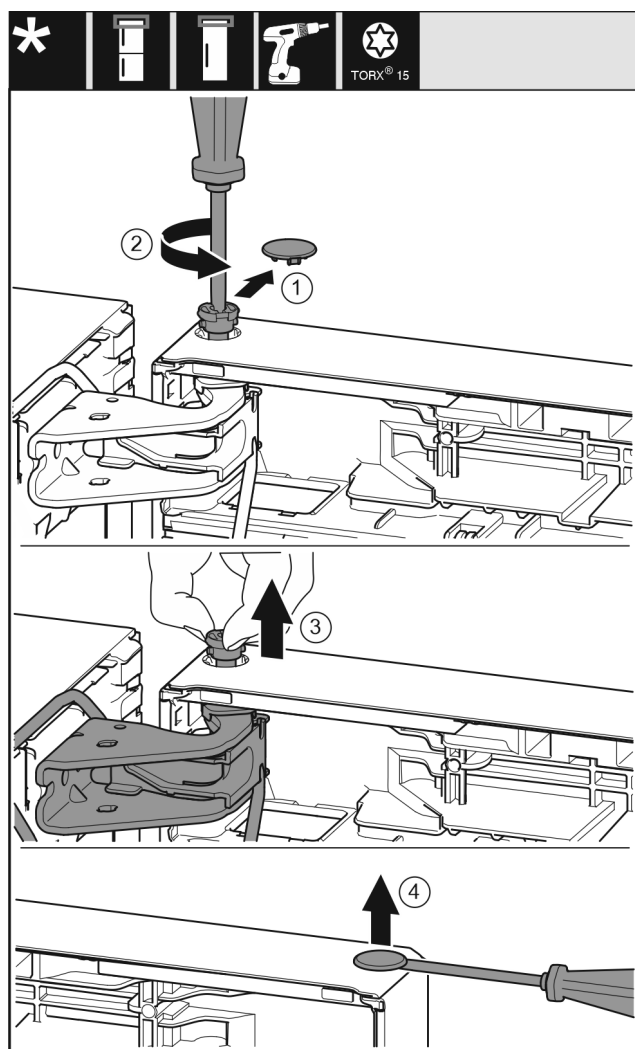

Fig. 20
- Carefully remove the protective cover. Fig. 20 (1)
- Loosen the bolts slightly with a T15 screwdriver. Fig. 20 (2)
- Hold the door and remove the bolts with your fingers. Fig. 20 (3)
- Carefully lift the plugs out of the door bearing bush with a slotted screwdriver and remove them. Fig. 20 (4)